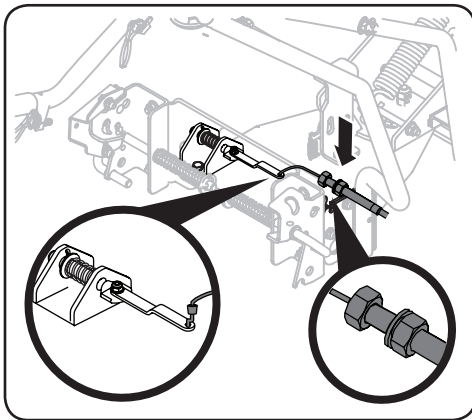

Figure 2-19
2. Slide the top nut and washer up and then slide into mounting slot located on the handle lift assembly bracket (689-00656). See Figure 2-19.